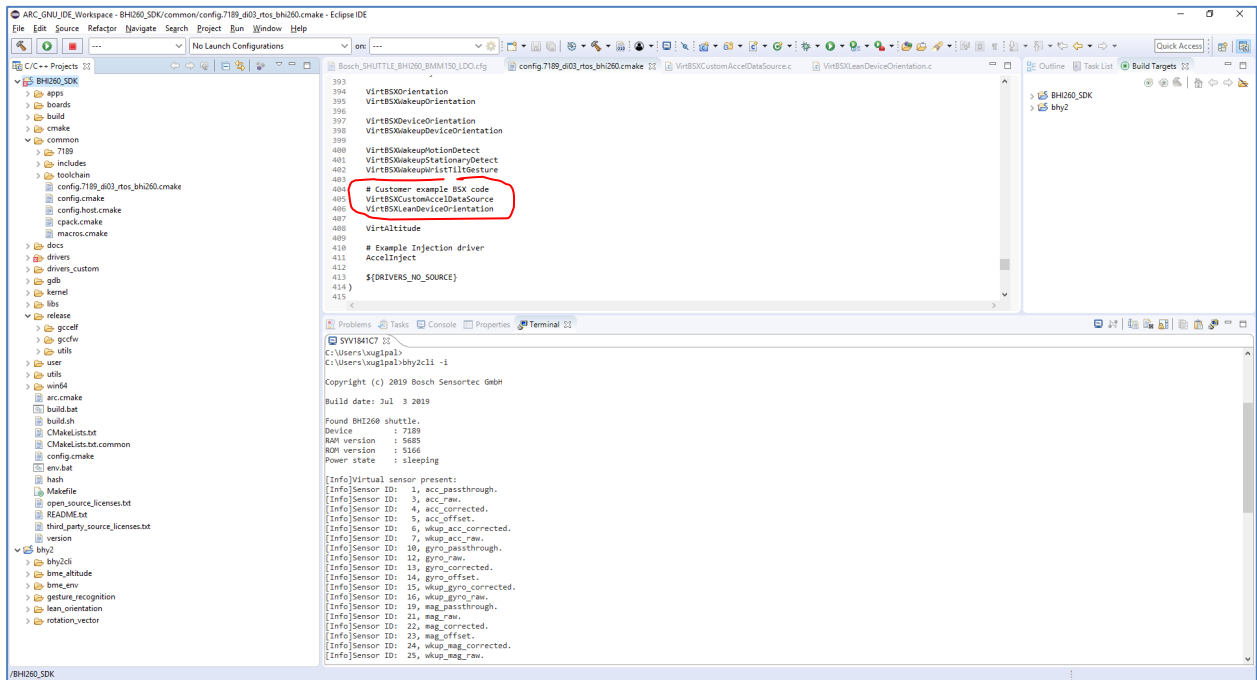

Figure 14 Add the two new custom drivers' names
- In the “drivers” folder two driver source codes have been implemented as an example: VirtBSXCustomAccelDataSource and VirtBSXLeanDeviceOrientation. They need to be added under the ENABLED_DRIVERS in the file “config.7189_di03_rtos.cmake” as shown in Figure 14.